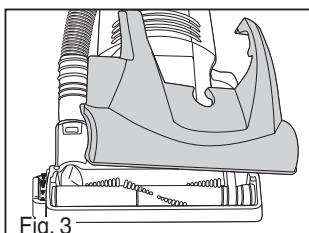

Fig. 3
- 3) Lift off brush roll cover. (Fig. 3).
- 7) Replace brush roll cover (Fig. 3).
3) **Hose connector** – twist hose from connector. Remove blockage and replace hose. For better access, unclip sides and clear blockage. Clip back into place and reconnect hose at both ends (Fig 3).